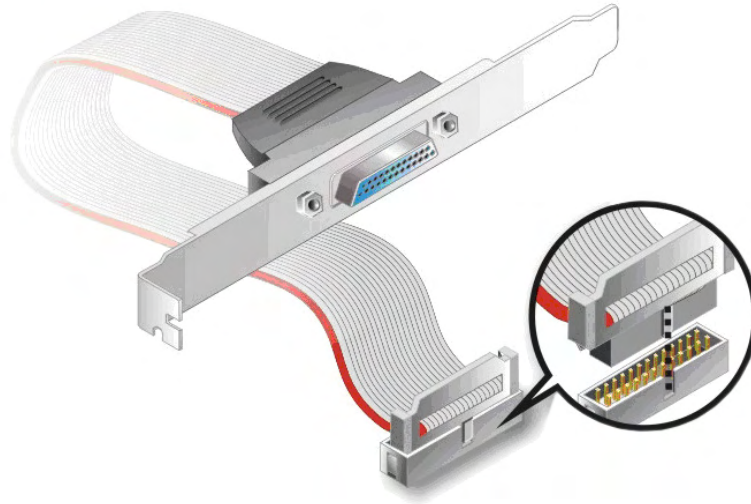

Figure 5-14: LPT Cable Connection
Step 2: **Align the connectors.** Correctly align pin 1 on the cable connector with pin 1 on the 3307740 LPT box-header connector. See **Figure 5-14**.
Step 3: **Insert the cable connectors** Once the cable connector is properly aligned with the 26-pin box-header connector on the 3307740, connect the cable connector to the onboard connector. See **Figure 5-14**.